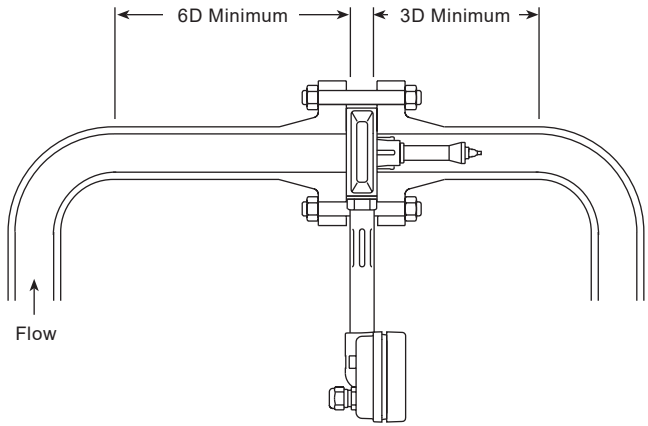

Fig. 11
**Note:** See Figures 11 to 14 for other considerations which need to be noted before determining the correct installation location.
The TVA flowmeter normally only requires a minimum of 6 pipe diameters upstream and 3 downstream of clear straight pipe. These dimensions assume a measurement from a single 90° bend (see Figure 11).